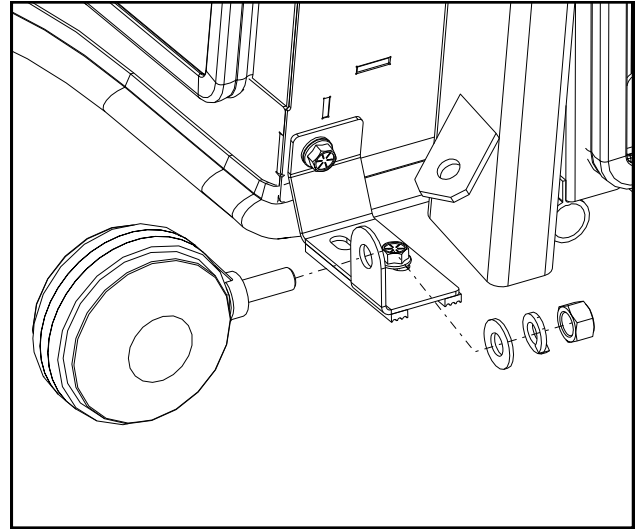

Fig. 21.1 (re-install turn signal lights - left fender)
21.1 Re-install turn signal lights to the cab's fender brackets using the O.E.M. (original equipment manufacturer) hardware. See fig. 21.1. Reconnect the wiring.